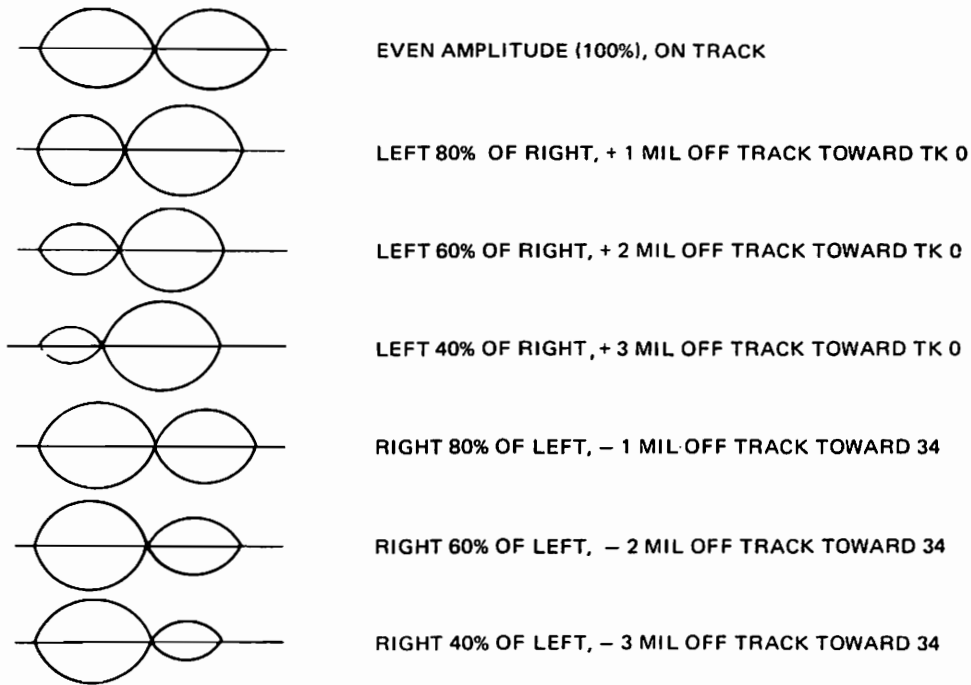

FIGURE 5 HEAD RADIAL ALIGNMENT
- c. The two lobes must be within 70% amplitude of each other (Ref. Figure 5). If the lobes do not fall within the specification, continue on with this procedure. If correct, proceed to step 3.4.6.